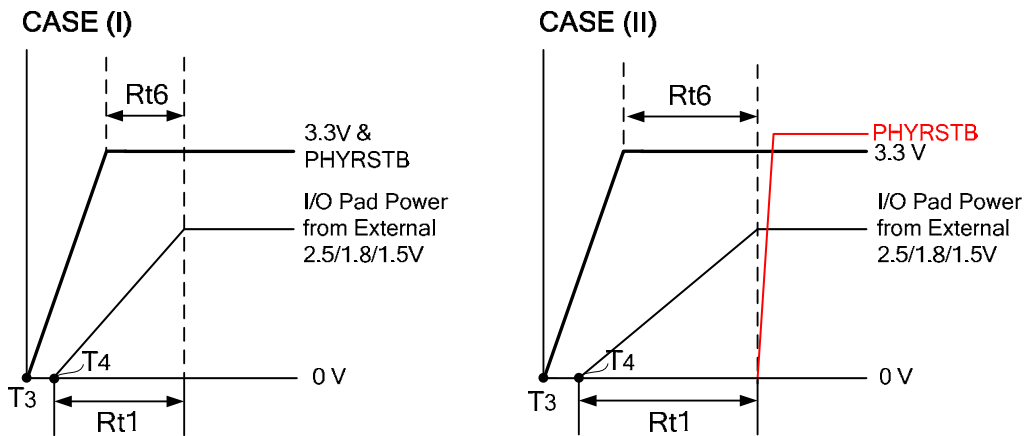

Figure 11. Power Sequence (I/O Pad Power Sourced Externally)
Note 5: When using an external power source for the I/O pad, the power should rise simultaneously or slightly later than 3.3V power, i.e. $T_4 \geq T_3$ in Figure 11.
Ready time of the external power should be within 5ms after 3.3V is ready. See CASE(I) in Figure 11, page 52.
PHYRSTB should be kept low until the external power is ready. See CASE(II) in Figure 11, page 52.